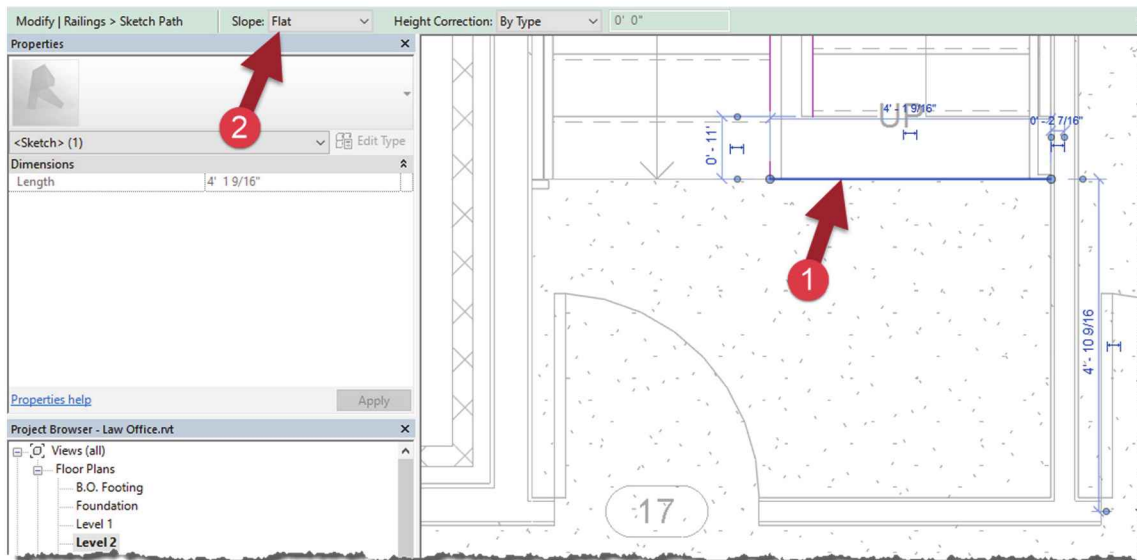

FIGURE 7-7.19 Modify railing sketch at Level 2
30. Sketch the additional line as shown in Figure 7-7.19.